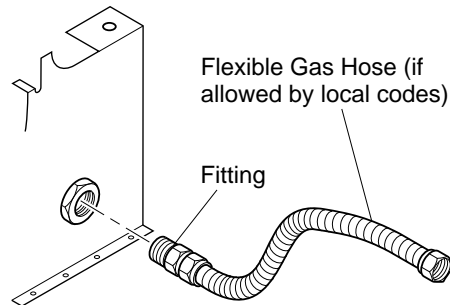

Figure 10 - Attaching Flexible Gas Hose to Heater
- two (2) 9-volt alkaline batteries (not included)
1. Apply pipe joint sealant lightly to male threads of the fitting to be threaded into gas regulator. Connect approved flexible gas hose to gas regulator of heater (see Figure 10).